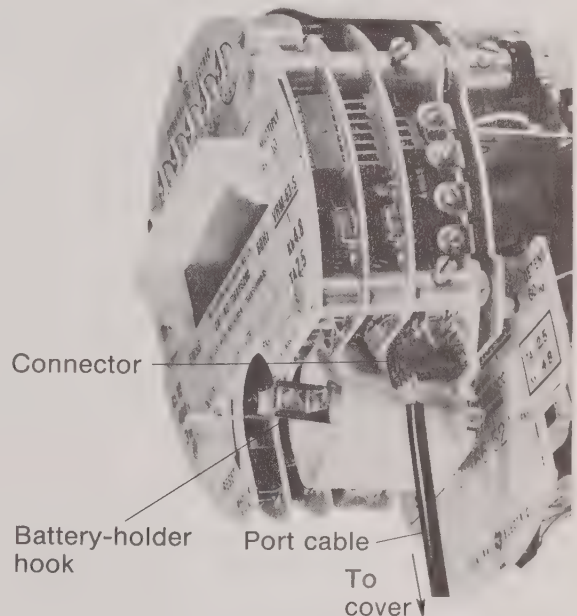

Fig. 6. Meter with communication port cable and connector installed.
1. Communication Port -- This port includes the two optical components visible from the front. These, in turn, communicate with similar components contained within the programmer probe when it is magnetically attached to the communication port. The connector on the cable plugs into the three-pin connector located on the electronic module. See Fig. 6.